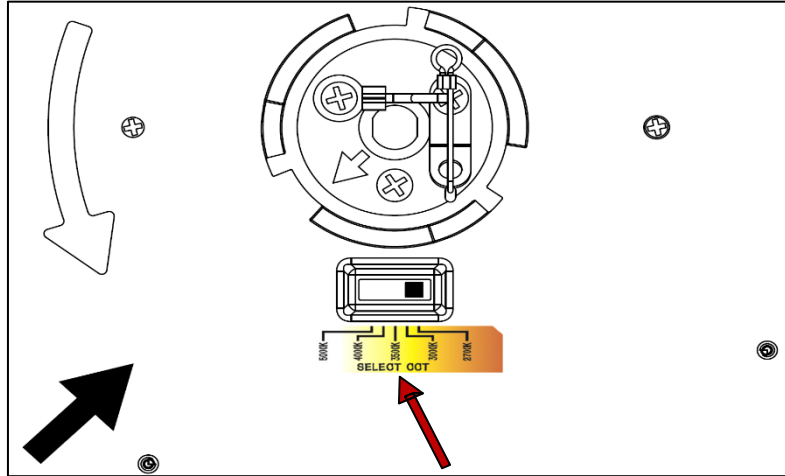

Figure 3
3. **Before Installation:** On the backside of the fixture, find the switch for selecting the color temperature. **Choose Your Setting:** Position the switch to the desired LED color temperature: 2700K (soft); 3000K (warm); 3500K (neutral); 4000K (cool); 5000K (daylight). shown in *Figure 3*.